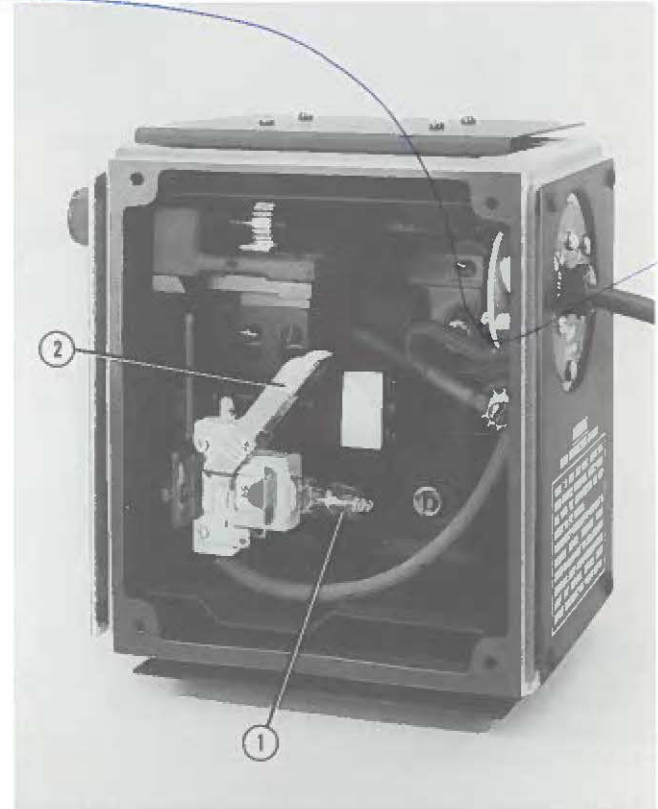

FIGURE 4-2 T-H LAMP IN LAMPHOUSE
4.1.3 Carefully remove the lamp from its packaging and insert it in the lampholder (Figure 4-2). The larger diameter pin of the lamp should go into the socket hole which is toward the top of the lamphouse.
4.1.4 Remove any fingerprints from the lamp with a tissue dampened with a solvent such as alcohol or acetone. The lamp can be easily removed by means of the lamp release lever (Figure 4-2).